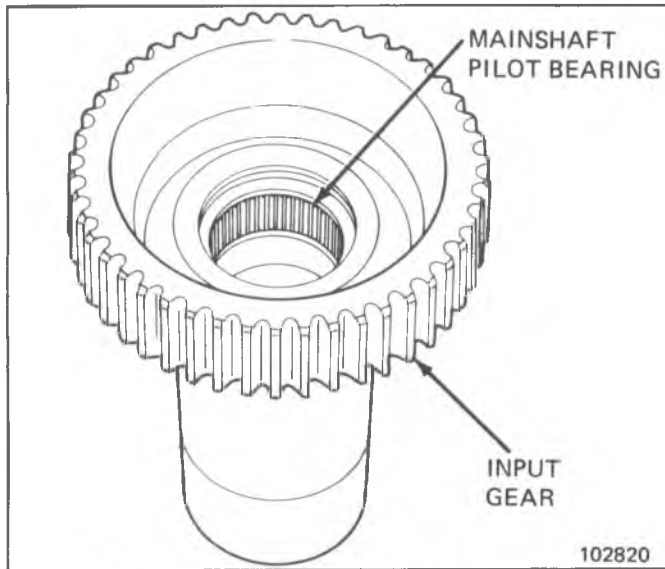

Fig. 7E-33-Mainshaft Pilot Bearing Installation
1. Install input gear race and thrust bearing in front case (Fig. 7E-23).